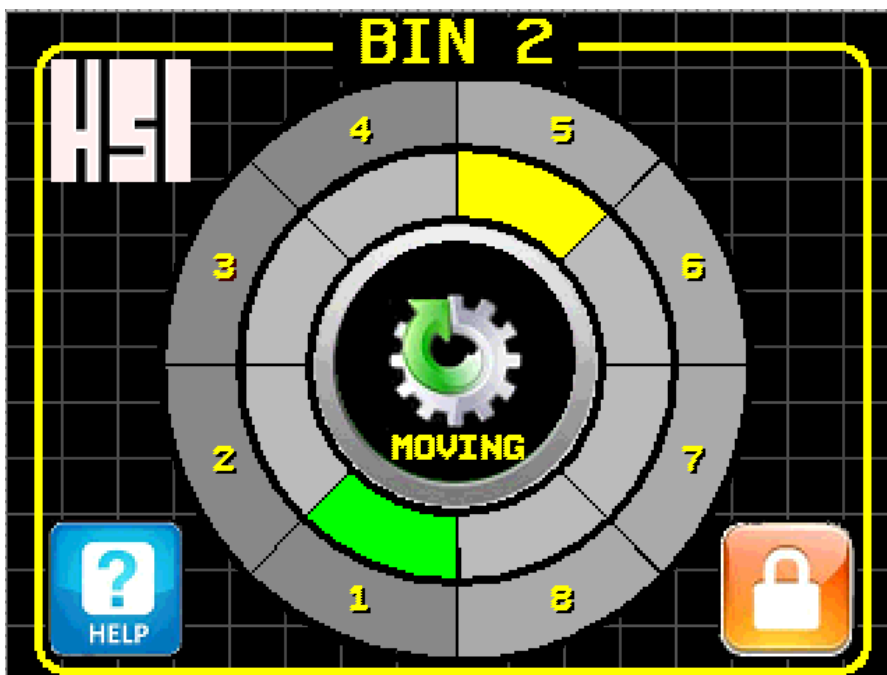

Figure 3.3
5. Once a new position is selected, the commanded position will now show up in yellow (Figure 3.3) and moving animation will be displayed in the center of the screen. Once in position, the discharge will turn green and the discharge name will be displayed at the top of the screen.